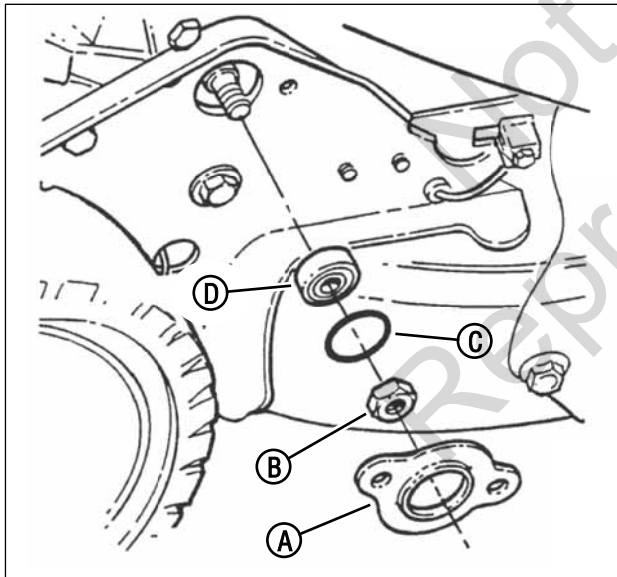

Figure 32: Replacing the hex shaft bearing
2. Remove the 3/8" hex lock nut (B, Figure 32), located on the outside of the right wheel bracket.
3. Remove the holder (A), O-ring (C) and bearing (D).